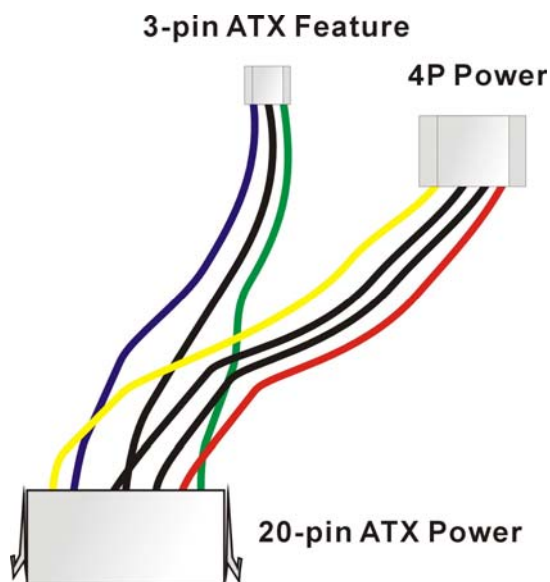

Figure D-2: ATX Power Adapter Cable
- Step 4:** Connect the optional ATX power cable to the AT power cable using their 4P power connectors (**Figure D-2**).
- Step 5:** Connect the optional ATX power cable to the SBC ATX connector (CN3) using the 3-pin ATX feature connector (**Figure D-2**).
- Step 7:** Connect the 20-pin ATX power connector to an ATX power supply (**Figure D-2**).